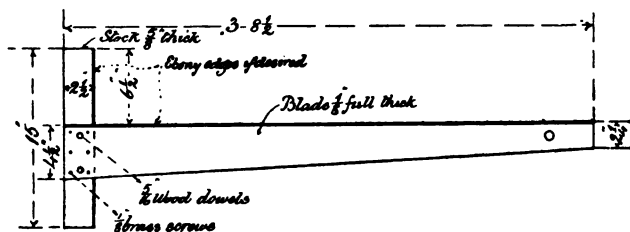

FIG. 16
*Tee squares.* The best material for these to be made from is mahogany, with ebony along the working edge. But as the ebony edge makes the squares more expensive it is frequently avoided, and the squares are made of plain mahogany or even bay wood; but the drawback to these lies in the fact that the edges soon wear uneven with the constant friction of the pens and pencils, and consequently often require truing up with the plane. This involves taking the blade off the stock, and when it is replaced it often happens that the angle of the two is slightly altered, especially if the blade is simply screwed on and is not fitted with dowels. The best shape for large squares suitable for double elephant and antiquarian boards is as shown in fig. 16, and the